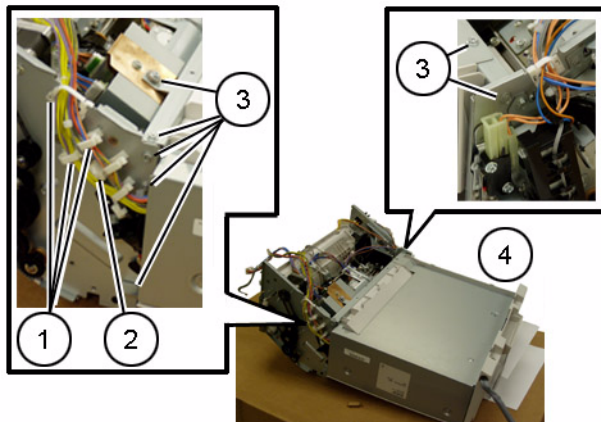

Figure 3 Removing the Stacker Tray (af422107)
8. Remove the Stacker Tray (Figure 3)